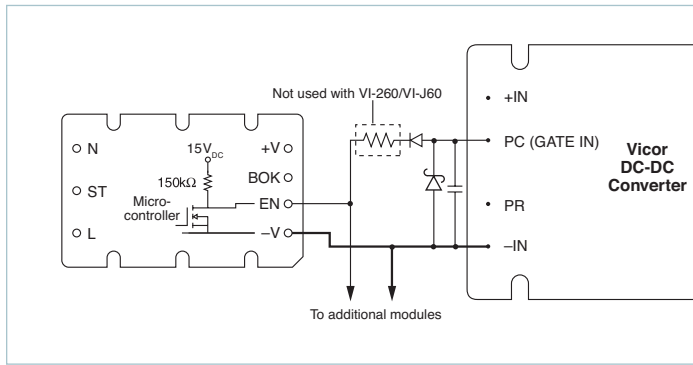

Figure 7.4 — Enable (EN) function
**Enable (EN) Pin:** (Figure 7.4) The Enable pin must be connected to the PC or GATE IN pin of all converter modules to disable the converters during power up. Otherwise, the converters would